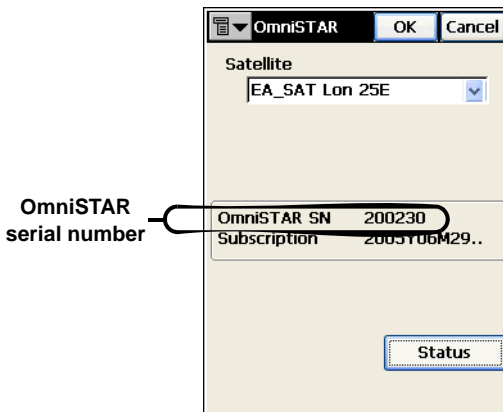

Figure 4-7. Start OmniSTAR Service
3. Select the satellite that you are subscribed to. The **OmniSTAR** screen also displays OmniSTAR/Beacon board information, including the OmniSTAR serial number (Figure 4-7). To view the satellite's status, press **Status**.